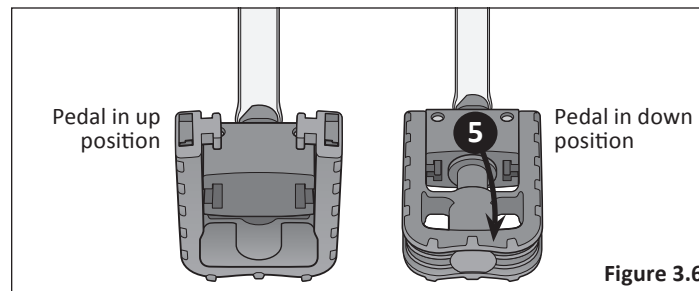

Figure 3.6
- 5 Flip the pedals into the down position. **Figure 3.6**